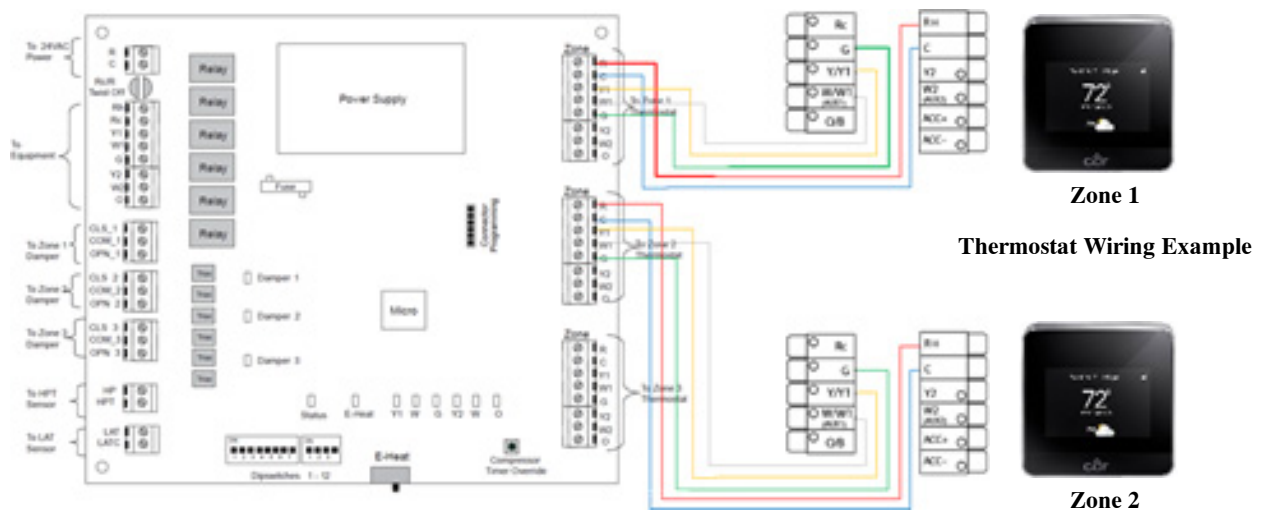

Fig. 3 - Wiring Diagram for Installation of Thermostats
2. Connect the thermostats wires to their respective Zone designation on the right side of the the 3-Zone Panels. (See Fig. 3).